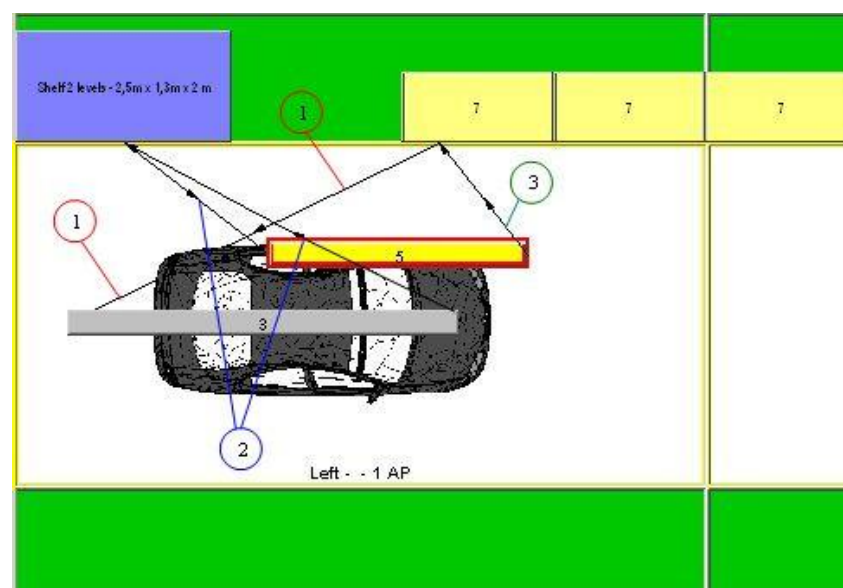

Figure 249: Option is not Activated in all Parts Bins
- An employee fetches the parts for processes in work from the marked parts bin. *Please refer to the Figure 249.*